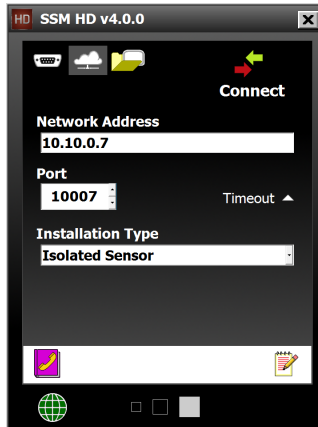

Figure 4.3 – Internet Connection
- 1 Click on the **Internet** icon  (see Figure 4.3)